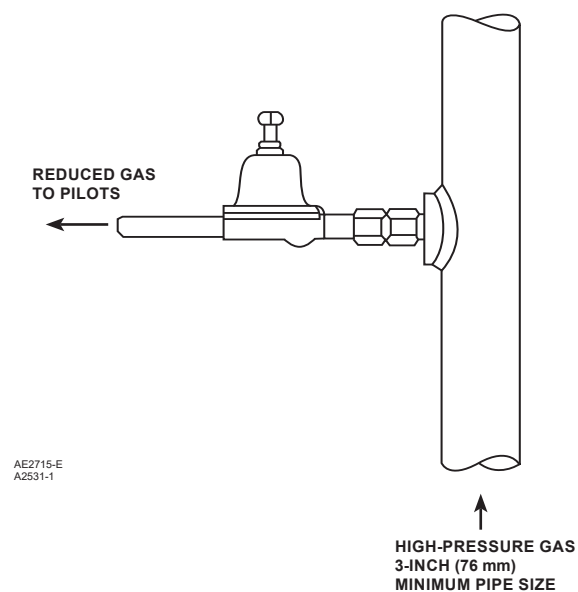

Figure 2. Installation of Type 1305 Regulator
Install these regulators as shown in Figure 2. Weld a 1-inch (25 mm) pipe coupling on the high-pressure, warm temperature supply line. Screw the inlet adaptor (key 3, Figure 4) into this pipe coupling so that the inlet and orifice are directly in the main flow line.